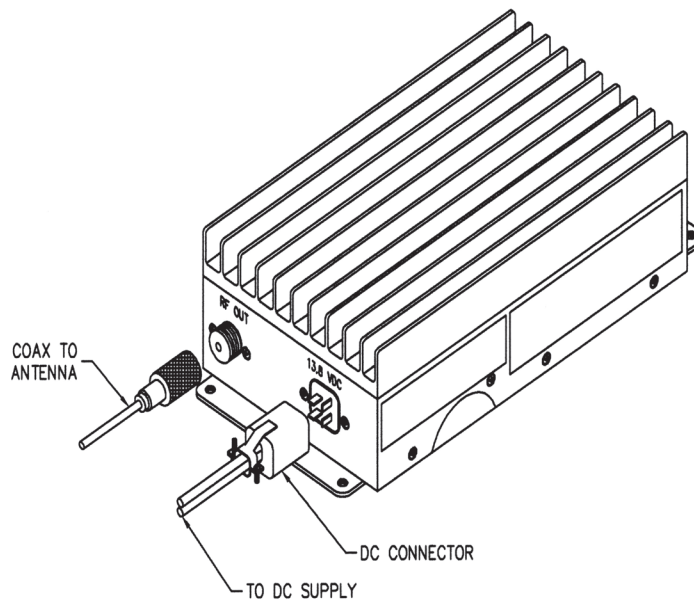

Figure 4. Antenna connection
3. Connect the antenna to the “**RF OUT**” terminal with a 50Ω coaxial cable and a PL-259 UHF male connector according to figure 4.